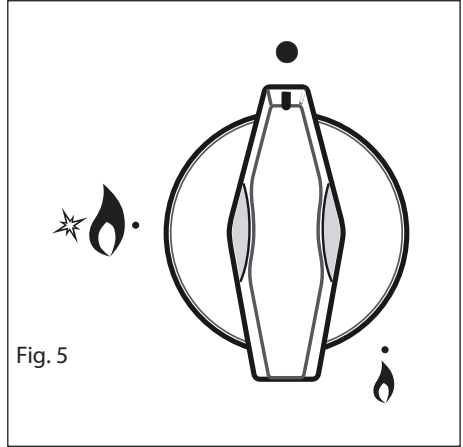

Fig. 5
Gas flow to the burners is adjusted by turning the knobs (illustrated in fig. 5) which control the safety valves.
1. Press in the corresponding knob and turn counter-clockwise (fig. 6) to the full flame position marked by the "★" symbol (fig. 5); hold the knob in until the flame has been lit.